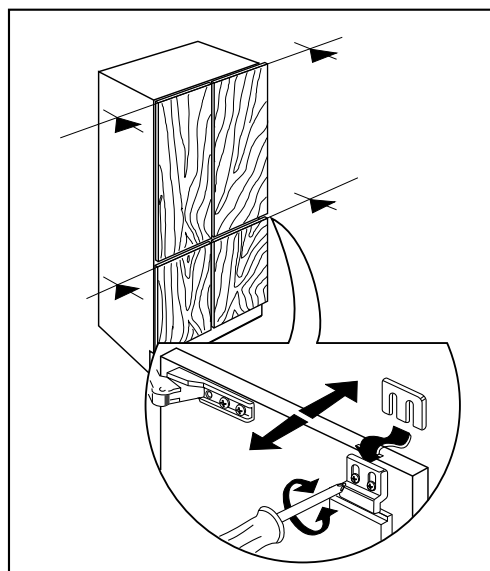

Fig. 13
- Level the front faces of the door panels by slackening the guide block screws and inserting the shims supplied, as necessary (Fig. 13).